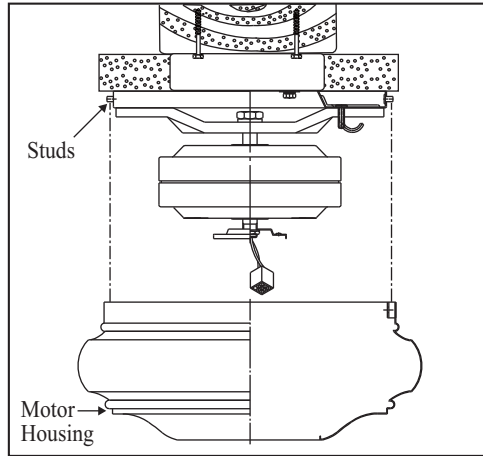

Figure 10
2. Raise the motor housing up against the mounting bracket, the four supports inside the housing should be placed against the four studs on mounting bracket, twist the housing clockwise until snug. (Fig. 10)